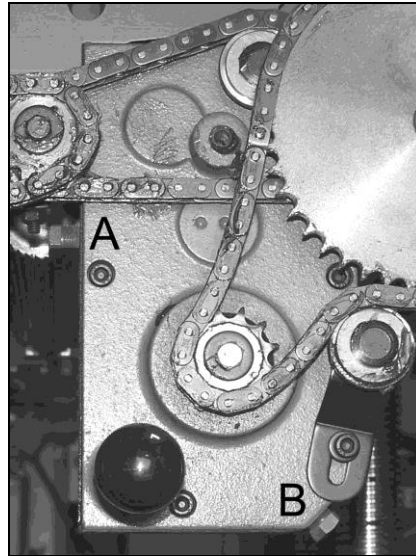

Figure 21
1. Remove the drain plug (B, Figure 21) with a 14mm wrench, and remove fill plug (A, Figure 21). Drain dirty oil thoroughly.